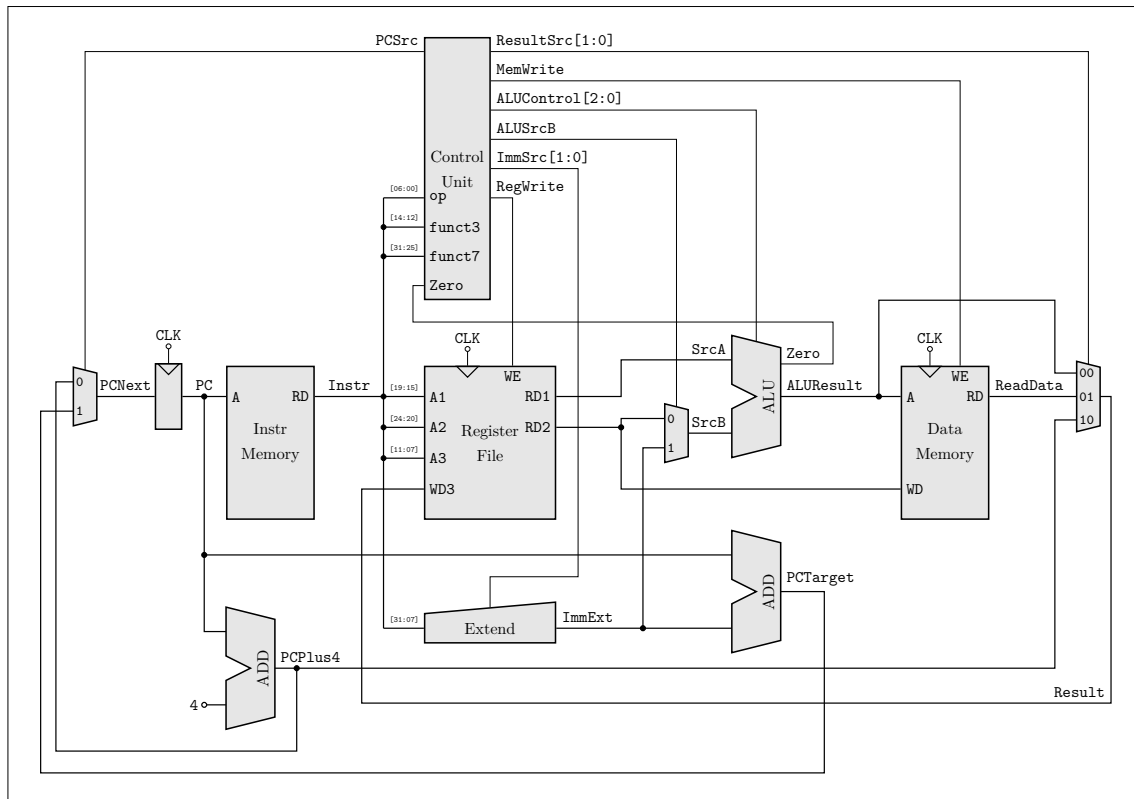

Figure 3.1: Overall Architecture of miniCPU
The miniCPU uses a classic five-stage structure: Instruction Fetch (IF), Instruction Decode (ID), Execute (EX), Memory Access (MEM), and Write Back (WB). In this project, you will implement a single-cycle CPU, where each instruction completes all five stages in one clock cycle. Figure 3.1 shows the main components and their connections.